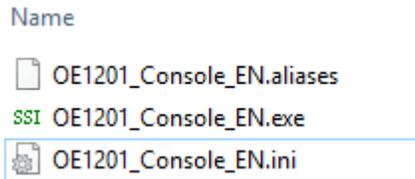

Fig.32 “OE1201_Console”File folder
- 2) Double click the file “OE1201_Console_EN.exe” in Fig. 32.